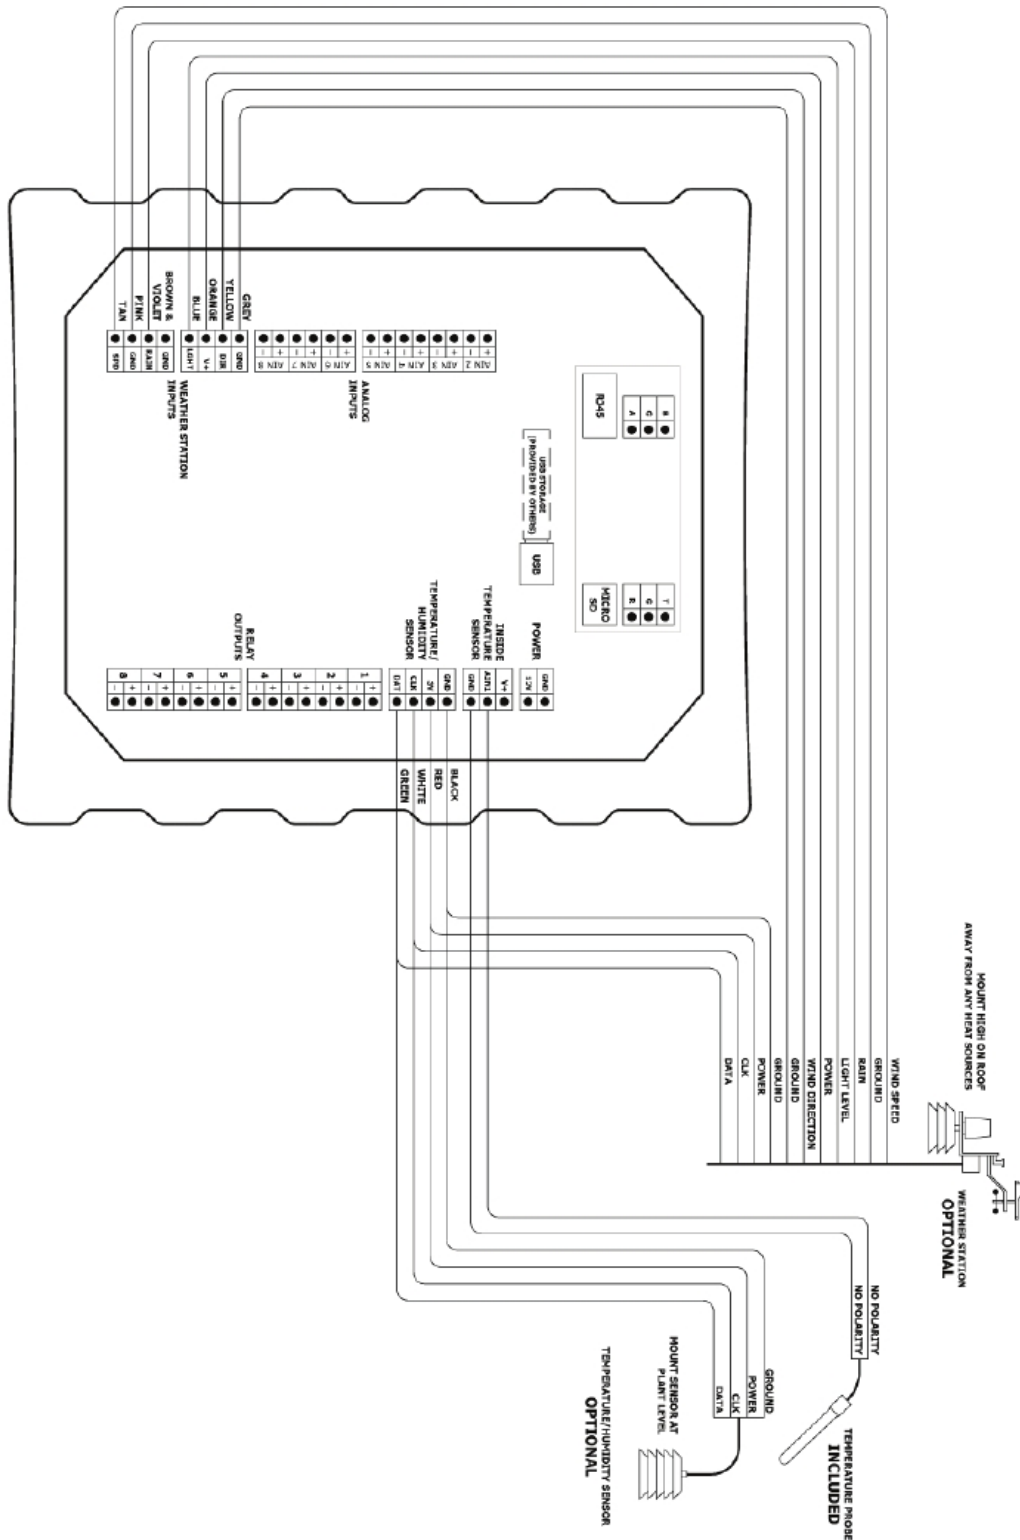

Figure 3.3 Wiring iGrow 100 Series™ Sensors
6. Connect the wires as shown in Figure 3.3.